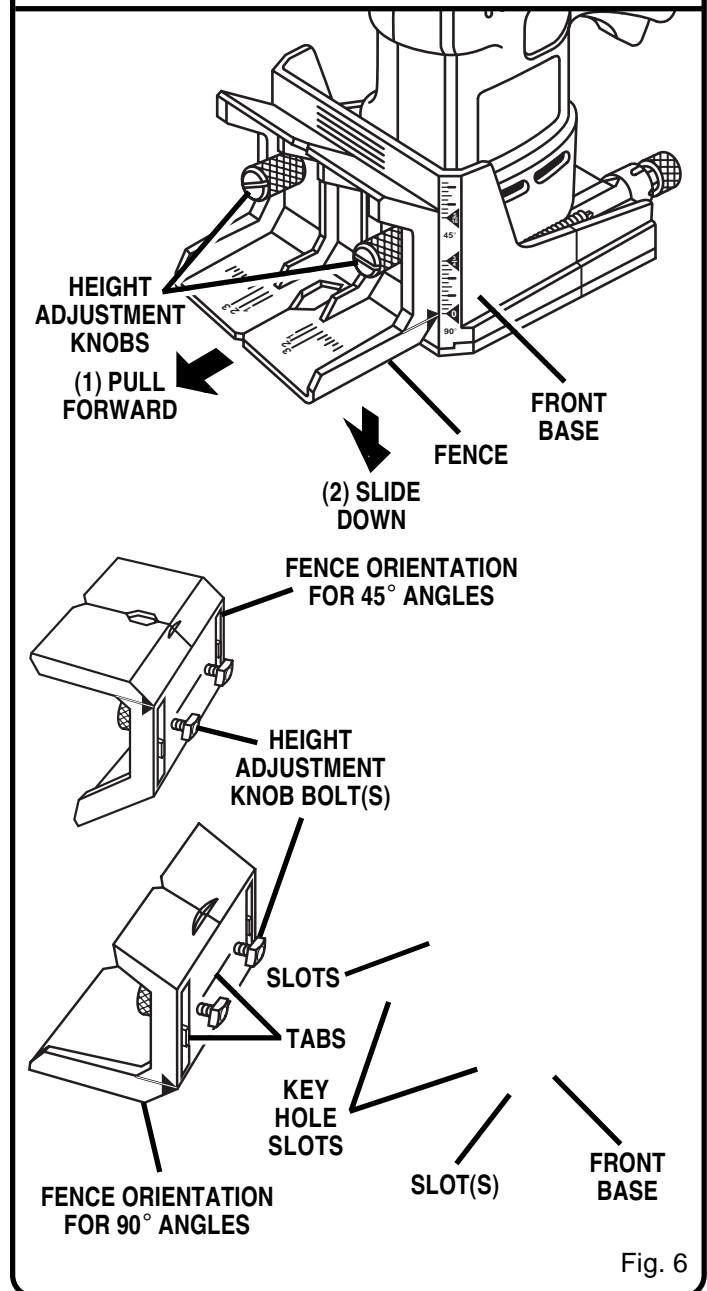

Fig. 6
**NOTE:** Slots in the front base align with a tab on the backside of the fence. See Figure 6. This alignment keeps the fence square at each height setting.
See Figure 6.
- Tighten height adjustment knobs securely. See Figure 6.